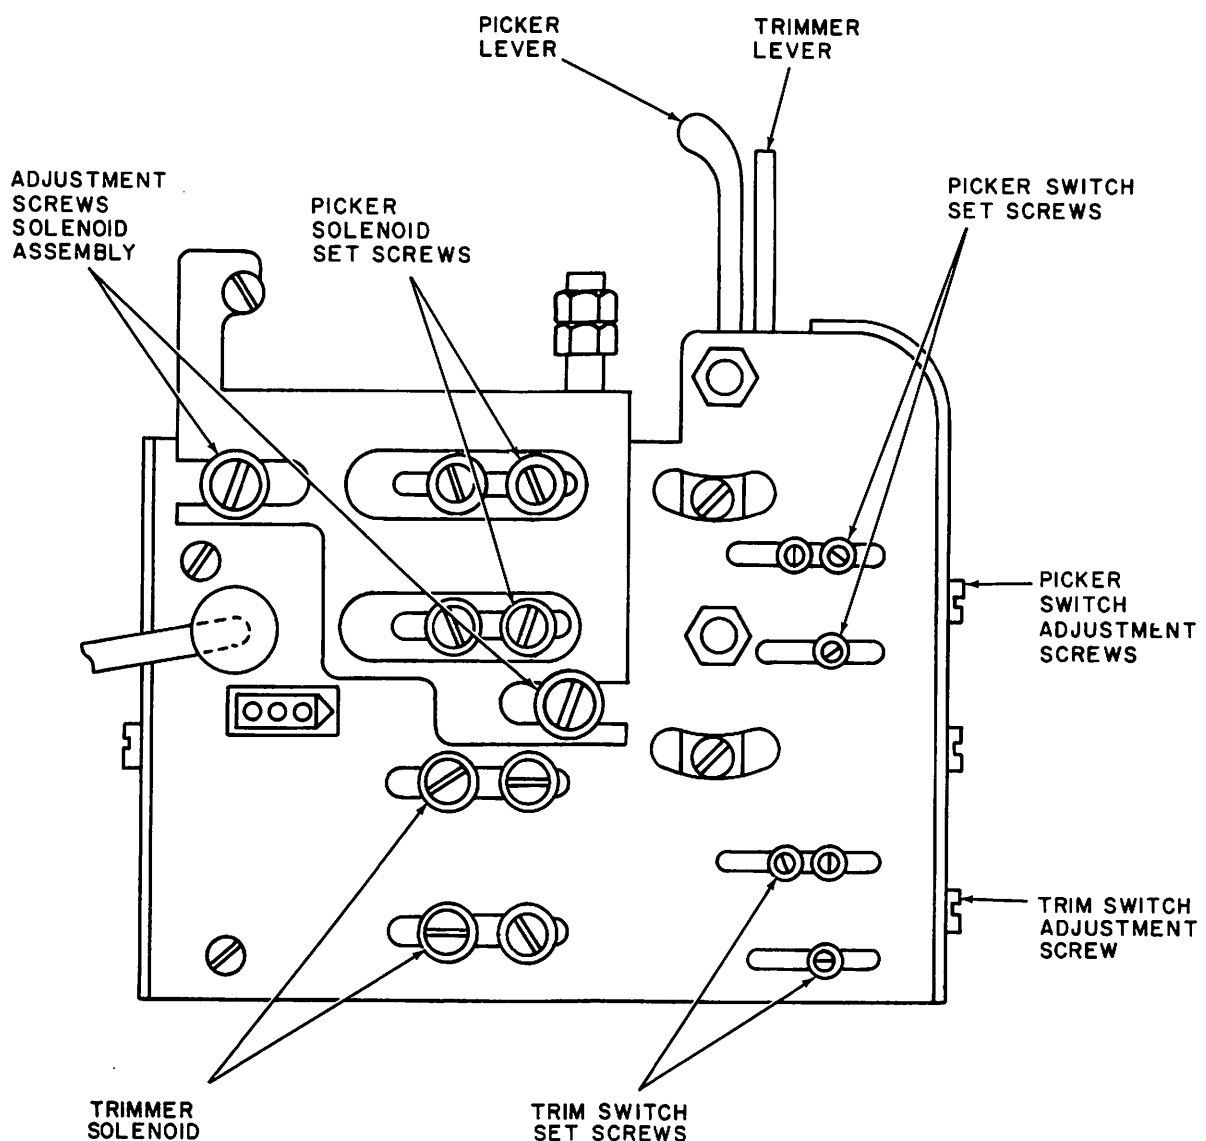

Figure 13...Trimmer Solenoid Assembly
## 2-9. TRIMMER SOLENOID ASSEMBLY (See Figure 13)
- A. See Solenoid Assembly installation procedure, Figure 13 and 14.